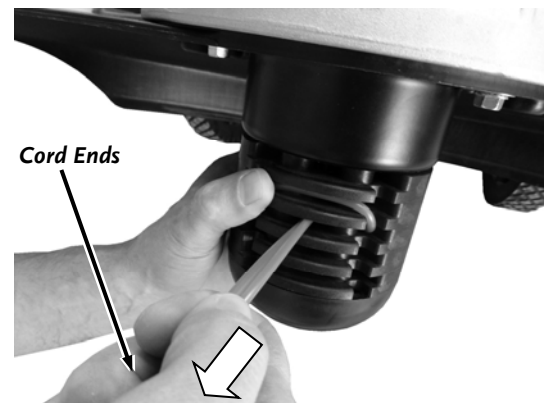

Figure 16
3. Pull the ends of the Cord under the loop and push the loop up into the Line Plate groove above them (**Figure 16**) and then pull the ends tight.